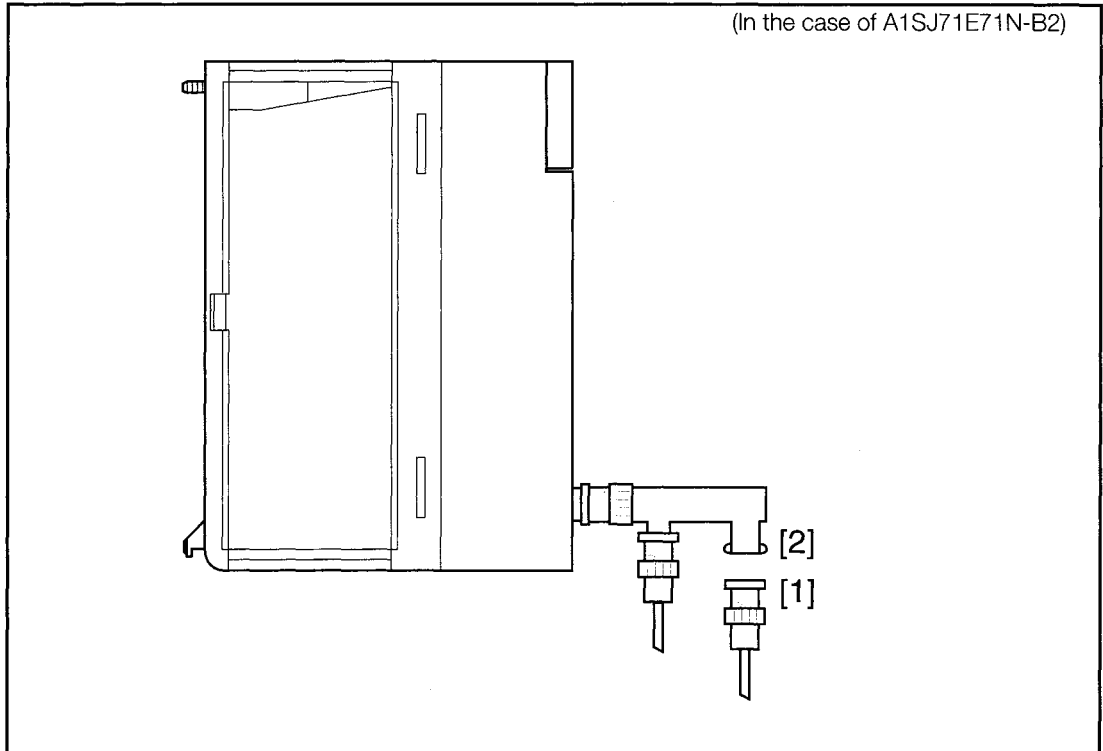

Fig 4.2 10BASE2 Coaxial Cable Connection Diagram
- (1) As shown in Fig 4.2, line up and push in the lip [2] into the groove [1].
- (2) Turn the connector 1/4 rotation to the right while pushing it in.
- (3) Turn the connector until it locks.
- (4) Check that the connector is locked.